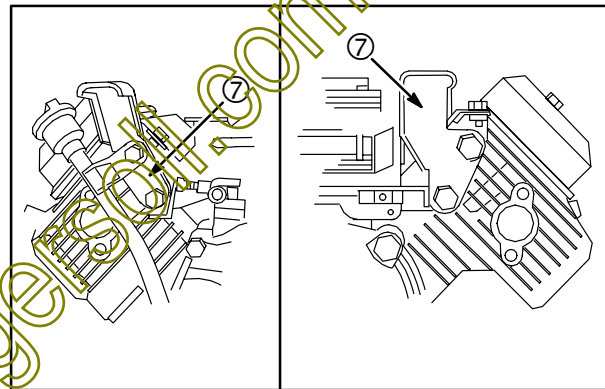

Fig. 3
8. If necessary remove 4 screws and 2 PTO side fuel tank base supports (7), **Fig. 3.**
2. Install 2 PTO side fuel tank base supports (7), **Fig. 3.** Torque screws to **140 in. lbs. (16 Nm).**